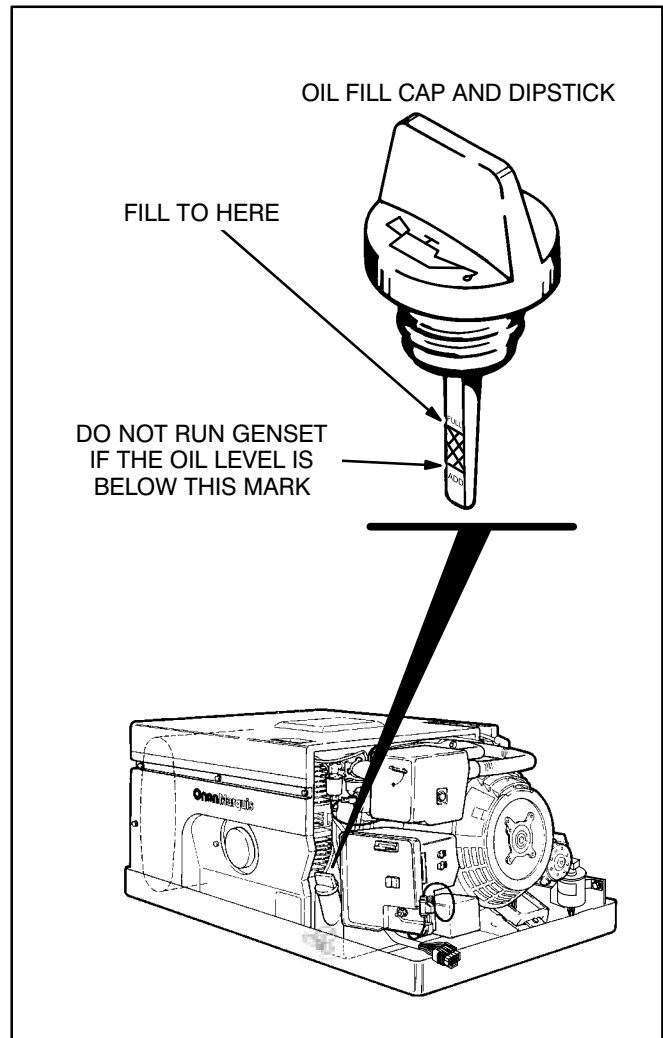

FIGURE 10. OIL LEVEL CHECK
1. Remove the oil fill cap/dipstick (Figure 10) and wipe it clean.
2. Remove the oil fill cap (Figure 10).